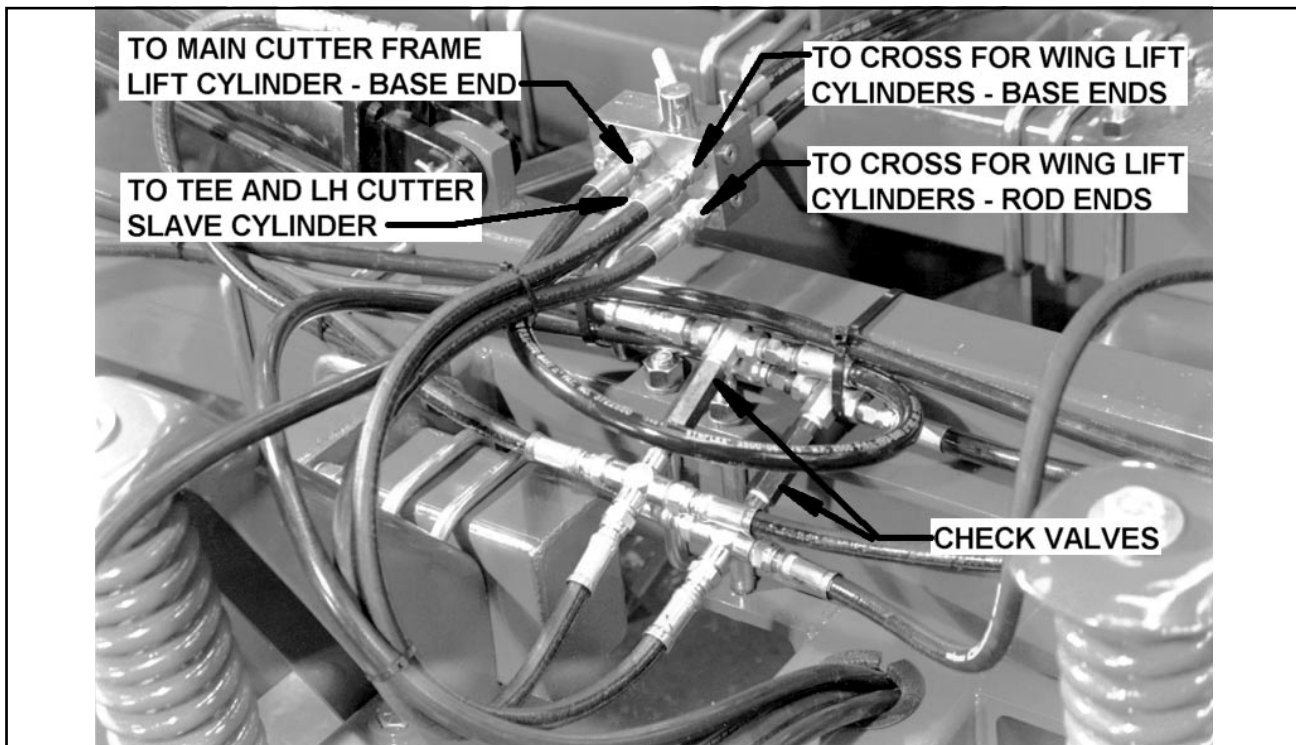

Figure 3-33 Selector Valve Connections
- c. Install check valves between crosses and tees as shown. Be sure valves are installed to allow fluid flow *toward* valve (See Figure 3-33).